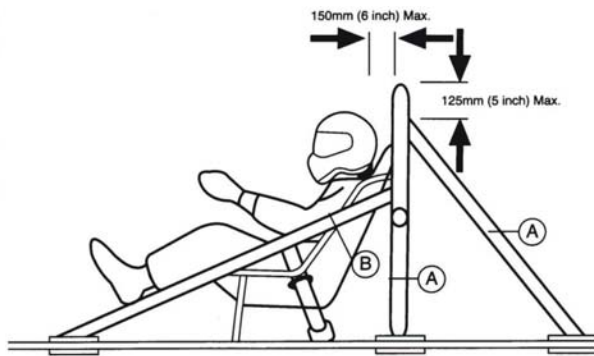
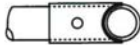

FIGURE 1 - SEDAN ROLL BAR
FIGURE 3 - BOLTED ROLLBAR JOINT (Where Permitted)
- a) A minimum of twelve 10mm (3/8 inch) HT bolts must be used, seven above the crank centre line and five below (see Figure 1)
- e) Scalping of the bell-housing flange is accepted if material equivalent to one bolt hole diameter is maintained around each attaching hole and at least 10mm (3/8 inch) of material is maintained between the radius and the edge of the flange (Figure 3).
- f) Motor plate must be 6mm (1/4 inch) aluminium (T6 highly recommended) or 3mm (1/8 inch) steel of full coverage style with minimum hole for crank flange to pass through (Figure 1).
Single rollover hoop covering the full width of the driver's compartment with two backstays and a side intrusion bar of welded construction constructed to ANDRA requirements as a minimum. (Figure 1). Utilities may use a four point roll cage with intrusion bars / diagonals on both sides. Roll cages fabricated from aluminium will be permitted in sedans with fixed steel roof slower than 11.00 seconds (1/4 mile)/7.00 (1/8 mile), where the original monocoque construction of the vehicle is unaltered.
Single rollover hoop covering the full width of the driver's compartment with two bolted backstays and a bolted side Intrusion bar constructed to ANDRA requirements as a minimum. (Figure 1, Figure 3). Utilities may use a four point roll cage with intrusion bars / diagonals on both sides and single diagonals in the roof and main hoop. A removable taxi-bar may be used but must constructed as per ANDRA requirements. (Plans are available upon request)